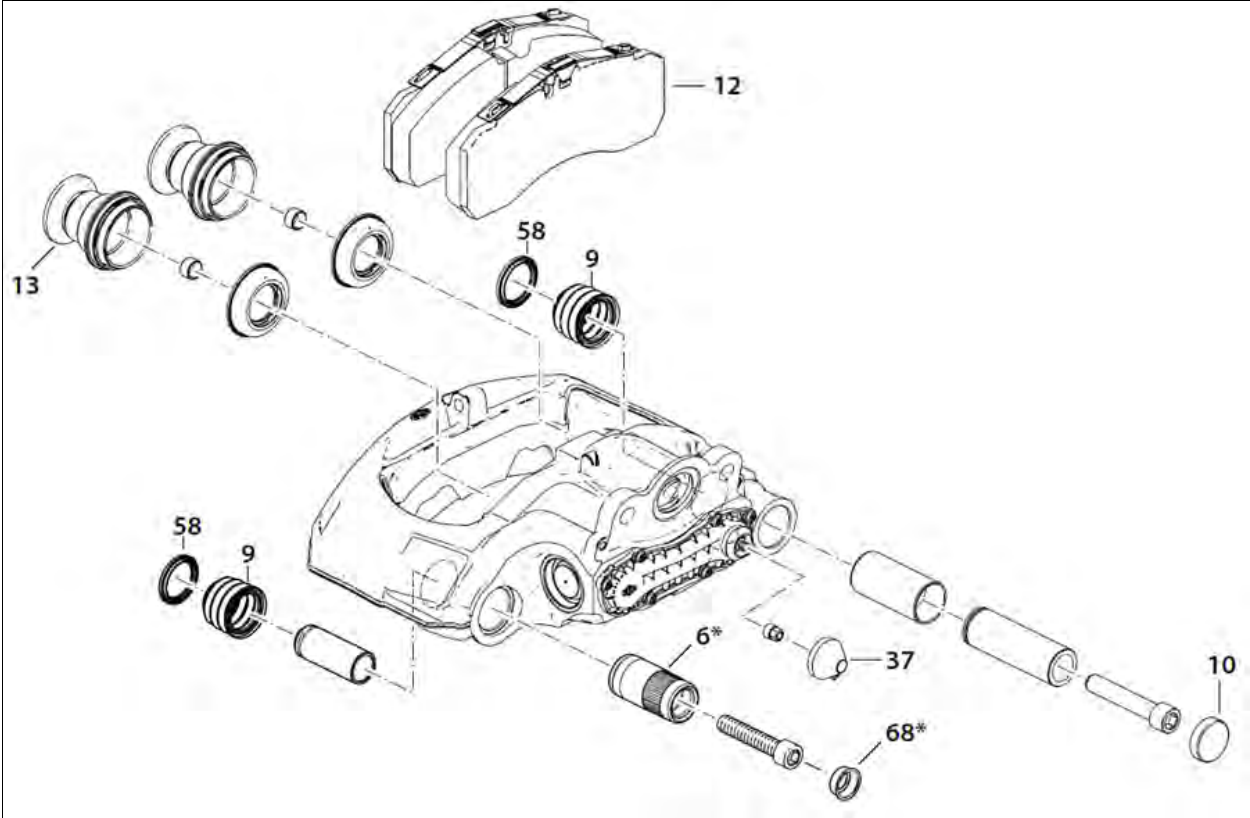

FIGURE 22: INSPECTION POINTS IDENTIFICATION
At each pad replacement, make sure the caliper operates smoothly over its full range of movement. If the caliper shows the following signs, replacement of the rubber bush/guide sleeve (item 6, Figure 22), guide pin (items 4 & 5 Figure 23, screw (items 39 & 40) and cap (items 10 & 68) is required.